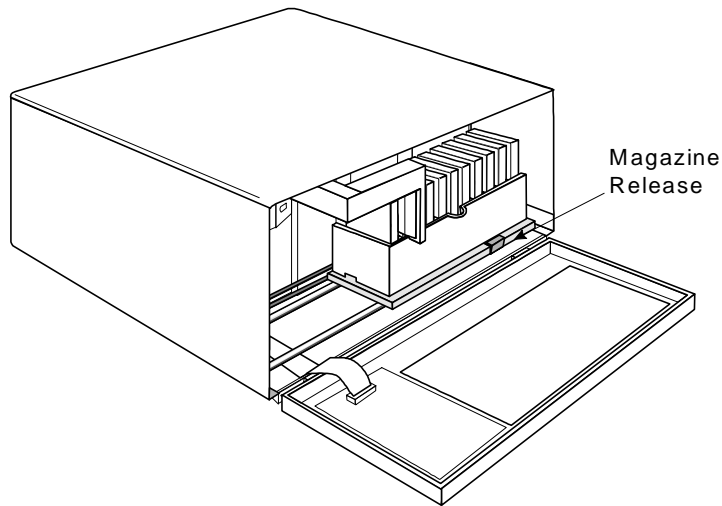

Figure 13. The Magazine Release
- Press the Magazine Release on the carriage. See Figure 13. The magazine will release from the holding pins.